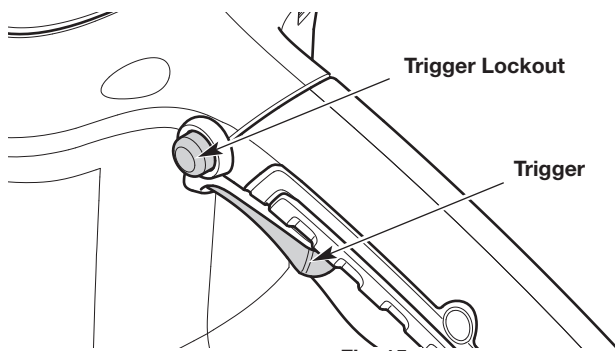

Fig. 15
1. Press and hold the trigger lockout (Fig. 15).
2. Continue to hold the trigger lockout. Squeeze and hold the trigger to start the unit (Fig. 15).
1. Release the trigger (Fig. 15).